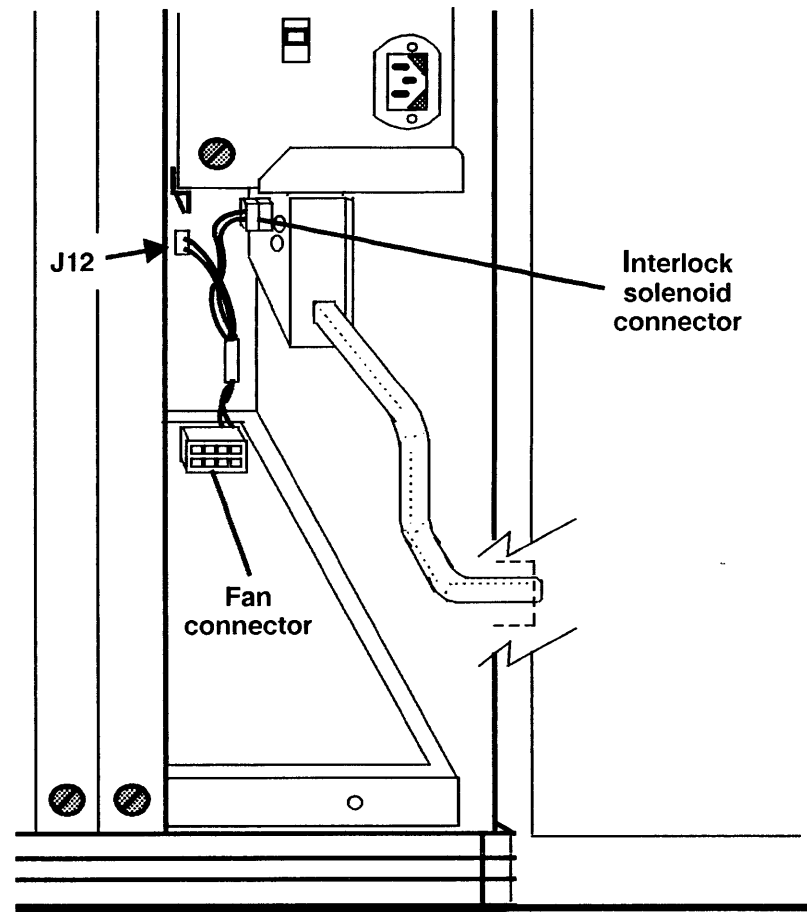

Figure 20. Fan / Interlock Solenoid Harness
10. Disconnect the interlock solenoid connector and check for +11.83 to +12.57 VDC coming from the plug on the harness (Figure 20). The correct voltage is read.